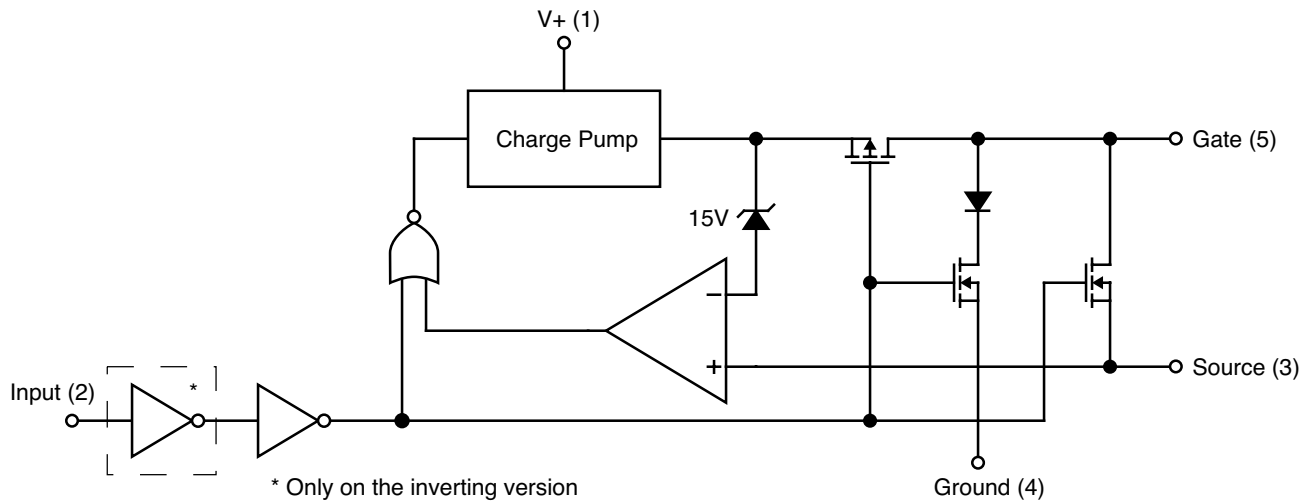

**Figure 1. 3V "Sleep-Mode" Switch with a Logic-Level MOSFET**
**High Side Driver** (Figure 1) The high side topology shown here is an implementation of a “sleep-mode” switch for a laptop or notebook computer which uses a logic level FET. A standard power FET can easily be substituted when supply voltages above 4V are required.